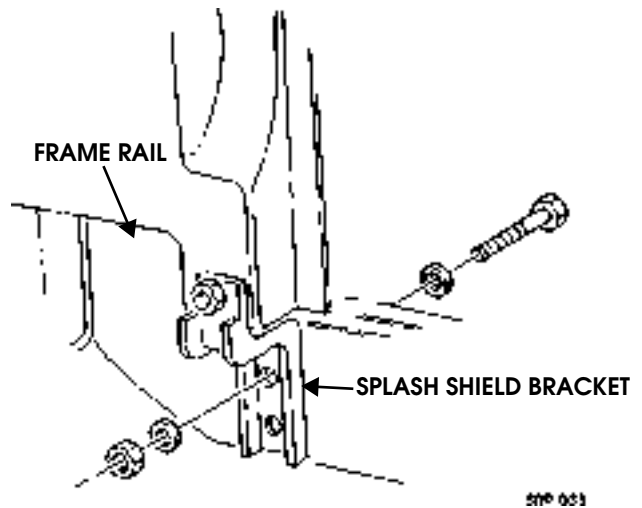

Figure 9-144: Splash Shield Mounting
6. Remove four locknuts, washers, bolts, and washers securing two splash shield brackets to frame rails (Figure 9-144).
6. Install four washers, bolts, washers, locknuts, and two splash shield brackets on frame rails. Tighten locknuts to 90 lb-ft (122 N•m) (Figure 9-144).